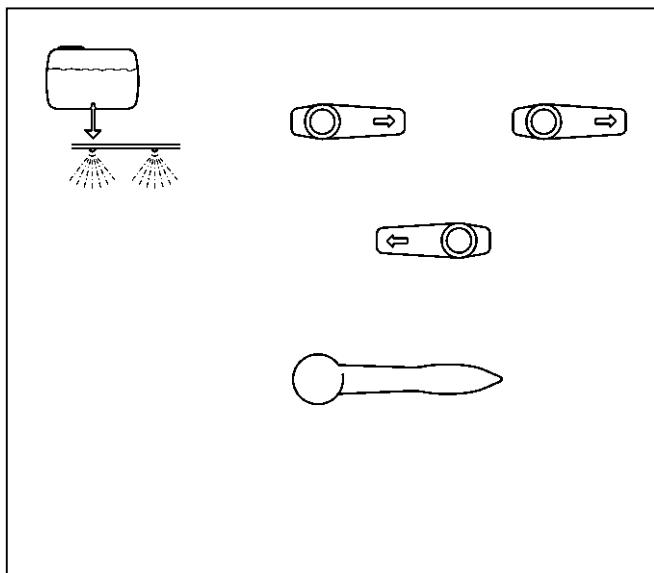

Fig. 7.6
- When the tank is filled, return the 3-way tap (Fig. 7.6) and switch off the pump.